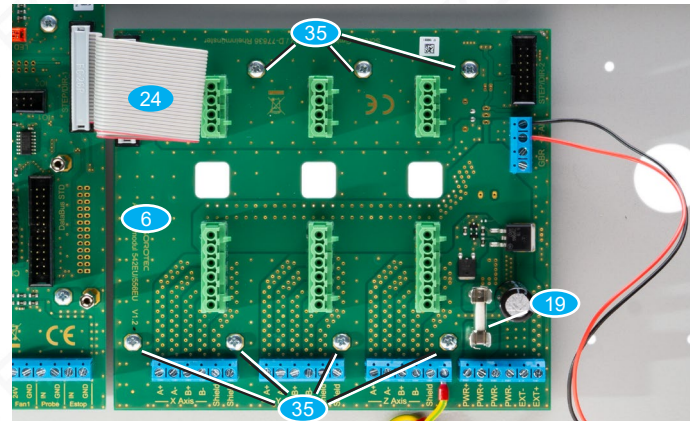

Fig. 11: MC Drive-Module
- Mount the MC Drive-Module **6** with cylinder head screws **35** as shown in Fig. 11.